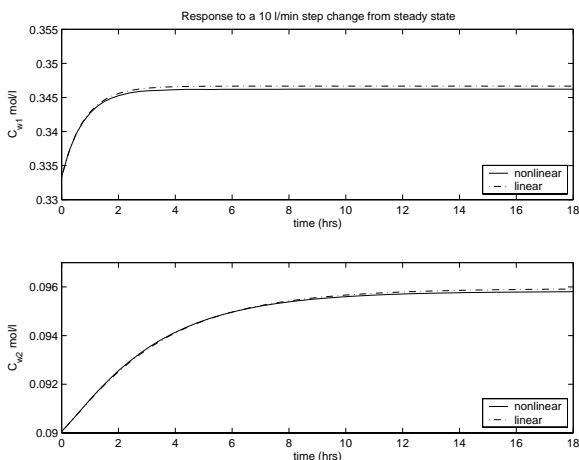

Figure 2-3: Plot for 2.7g
- g. Figure 2-3 shows the plot for the linear and non-linear responses; as it can be seen, the extraction requirements are still met.